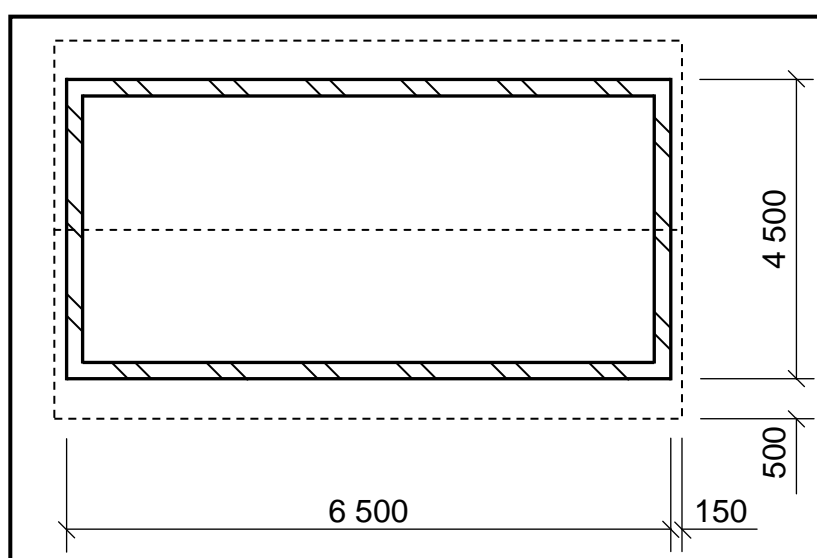

FIGURE 6.7
- 6.7 FIGURE 6.7 below shows the floor plan of a building with a gable roof.